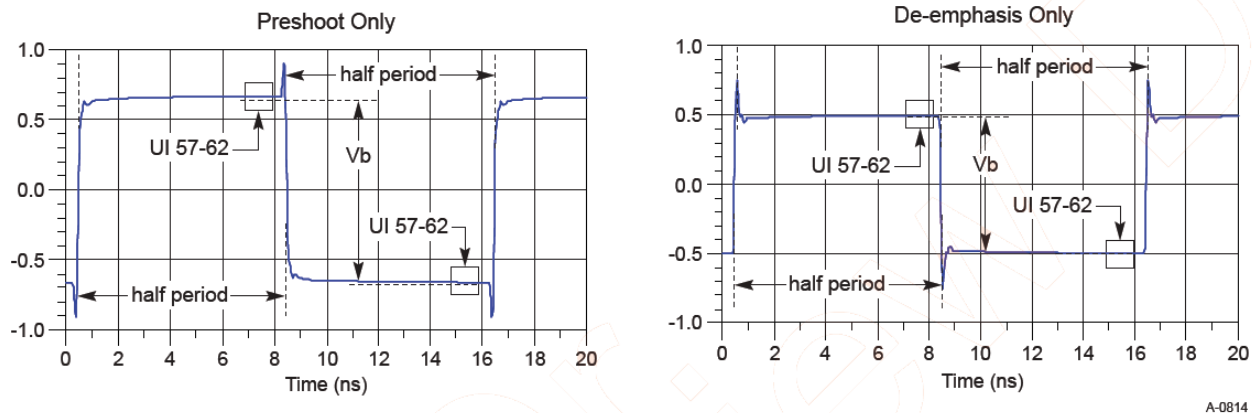

Figure 62 Waveform measurement points for preshoot and de-emphasis
8.0 GT/s, 16.0 GT/s and 32.0 GT/s PCIe signaling must support the full range of presets given in Table 8-1 (PCIe Base Specification Revision 5.0). Presets are defined in terms of ratios, relating the pre-cursor ( $V_c$ ) is referred to as pre-shoot, while the post-cursor ( $V_b$ ) is referred to as de-emphasis. This convention permits the specification to retain the existing 2.5 GT/s and 5.0 GT/s definitions for Tx equalization, where only de-emphasis is defined, and it allows preshoot and de-emphasis to be defined such that each is independent of the other. The tolerances in Table 8-1 (PCIe Base Specification Revision 5) also apply to 2.5 and 5.0 GT/s de-emphasis. The maximum swing,  $V_d$ , is also shown to illustrate that, when both  $c_{+1}$  and  $c_{-1}$  are nonzero, the swing of  $V_a$  does not reach the maximum as defined by  $V_d$ . The high frequency nature of PCIe signaling makes measurement of single UI pulse heights impractical. Consequently all amplitude measurements are made with low frequency waveforms as shown in Figure 62.